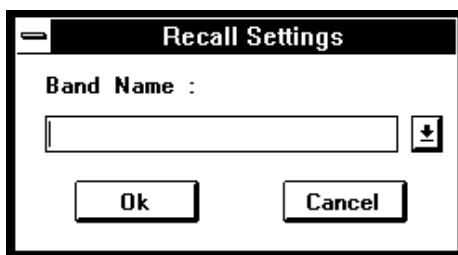

Figure 5-11: Recall Settings Dialog Box
1. Click on **Setup** on the Spectrum Analyzer Menu Bar and select **Recall...** from the Setup options list to open the Recall Settings Dialog Box (Figure 5-11).